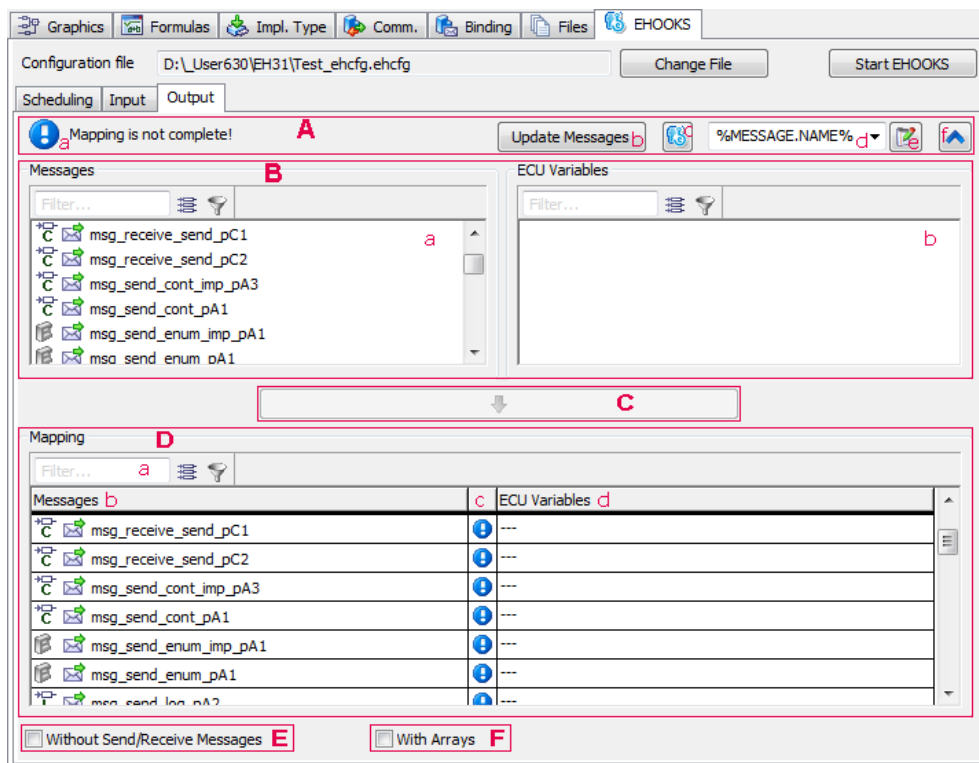

Figure 4.14: "Output" tab
- To select ECU Write Hook variables, go to the "Output" tab (Figure 4.14 on page 36).